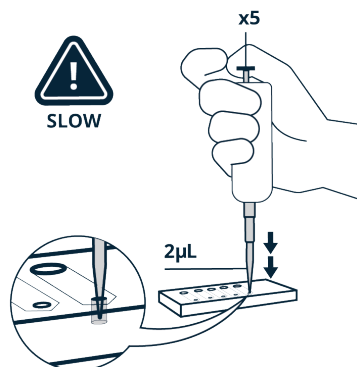

Figure 2. Slowly inject 2µL of sample to each inlet port.
5. Use the 1-10µL micropipette fitted with the recommended tip to slowly add 2µL of liquefied semen sample to the inlet port (Figure 2). As in the previous step, do not allow the micropipette to “bottom out”. Ensure free flow of the semen sample. Ignore any excess solution buildup at the inlet port.